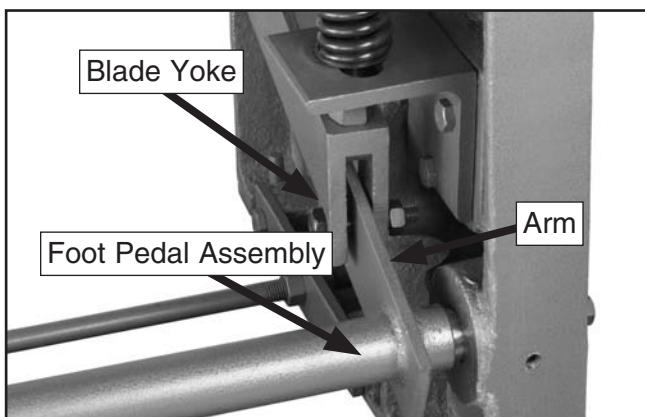

Figure 8. Foot pedal assembly.
4. Attach the two blade yokes to the arms of the foot pedal with the M14-2 x 50 bolts, washers and nuts, and tighten in position (**Figure 8**).